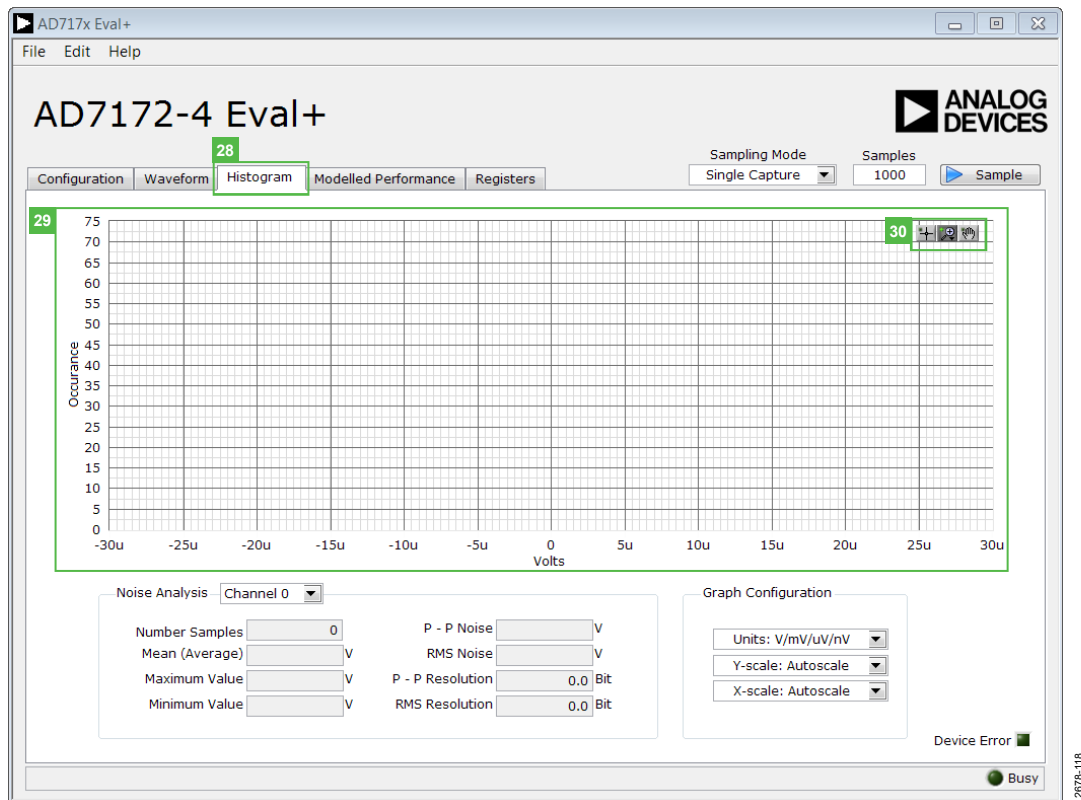

Figure 18. **Histogram** Tab of the AD7172-4 Evaluation Software
Figure 18 shows the **Histogram** tab of the AD717x Eval+ software.
The data histogram graph (20) shows the number of times each sample of the ADC output occurs. The control toolbar (21) in the histogram graph allows you to zoom in on the data (see Figure 18). Click the x-axis and y-axis to change the scales on the graph (see Figure 18).